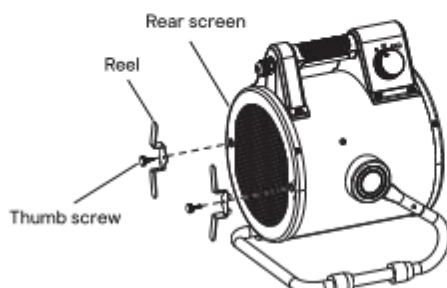

Figure 4
2. Put the machine on a relatively flat table. Insert the strips of the cable reel metal pieces in the vertical notches and overlap each hole with those of the rear screen. Then fasten the pieces with thumb screw, as shown in Figure 4.